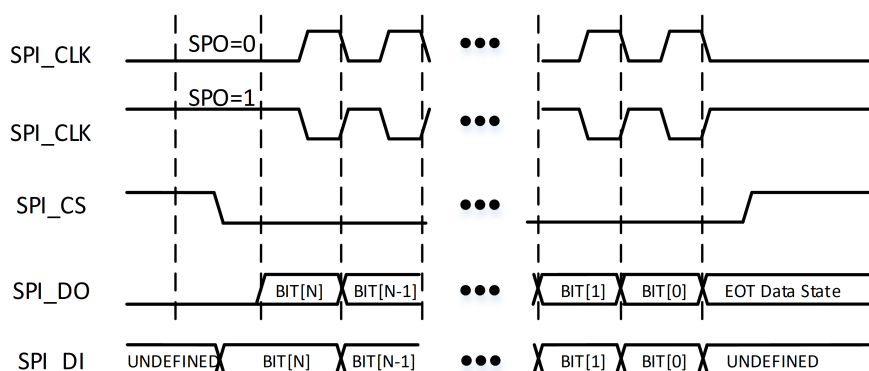

Figure 7-3: SPI communication when SPH is 0
- SPI Format SPI is a full-duplex synchronous serial communication protocol, divided into four sub-modes based on the SPO and SPH settings in the TOP_CTRL register. SPO configures the polarity of SPI_CLK when the SPI controller is either disabled or in the IDLE state. When SPO is 0, the SPI_CLK polarity is low level, and the first edge is a rising edge; When SPO is 1, the SPI_CLK polarity is high level, and the first edge is a falling edge. SPH sets the timing of the clock edge for driving data and sampling data. When SPH is 0, the SPI controller samples data on SPI_DI at the first edge of SPI_CLK and drives SPI_DO at the second edge of SPI_CLK (by default, the MSB of the data to be transmitted is on SPI_DO); When SPH is 1, the SPI controller drives SPI_DO from the first edge of SPI_CLK and samples data on SPI_DI from the second edge of SPI_CLK. Detailed communication timing is shown in Figures 7-3 and 7-4.
The following describes the SPI protocol communication process with reference to Figure 7-3 under the conditions SPH=0 and SPO=0. When the SPI controller is disabled or in the IDLE state after being enabled, SPI_DO is at a low level, SPI_CS is at a high level, and SPI_CLK is at a low level. The SPI_CS signal is pulled low to initiate a data transfer and remains low until the current data frame transmission is complete. After half a SPI_CLK cycle, the data for this transfer of MSB is driven onto SPI_DO, and after another half SPI_CLK cycle, the SPI_CLK rises to generate the first rising edge and sample SPI_DI. Before all data for this transfer is fully transmitted, the SPI_CLK continues toggling at the configured frequency. After the final sampling, the SPI_CLK returns to low level, and after half a SPI_CLK cycle, the SPI_CS is pulled high to end this transfer.